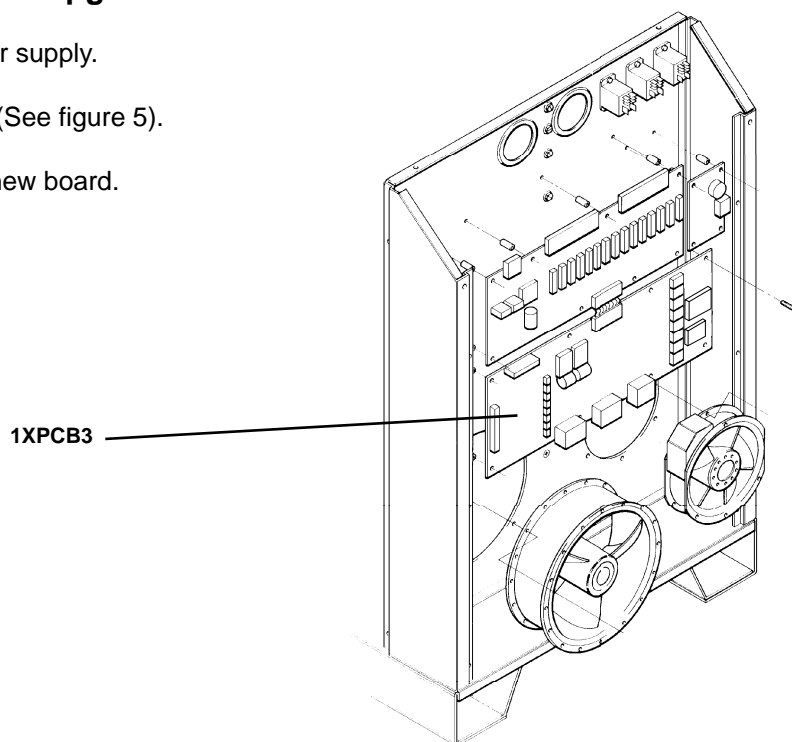

Figure 5 Power Supply Control Board 1XPCB3 and Firmware IC (U9) Locations
2. Locate control board 1XPCB3 (See figure 5).